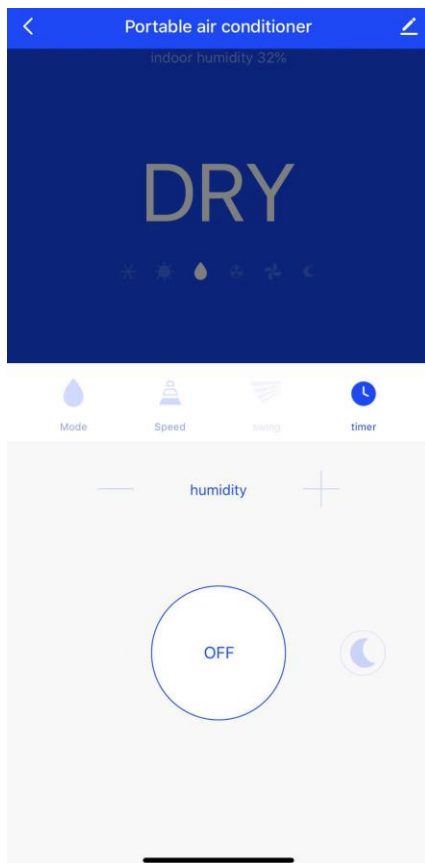
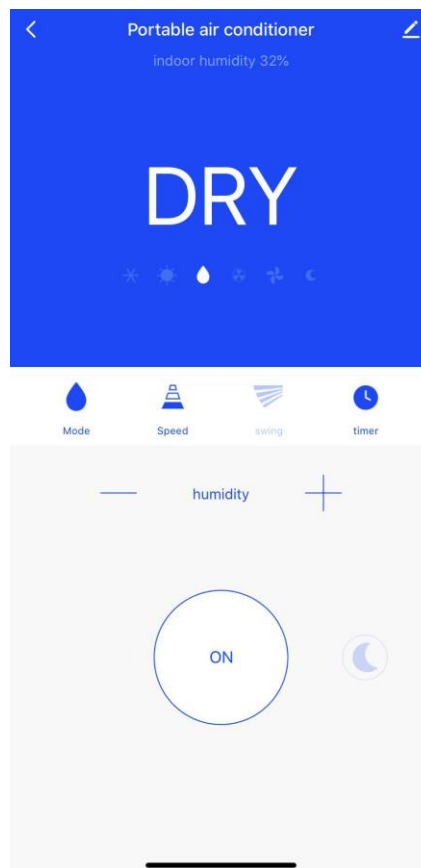

Fig.8
Fig.9
1. Tap "OFF" in Fig.8, the interface will turn to Fig.9 and the appliance will begin to work.